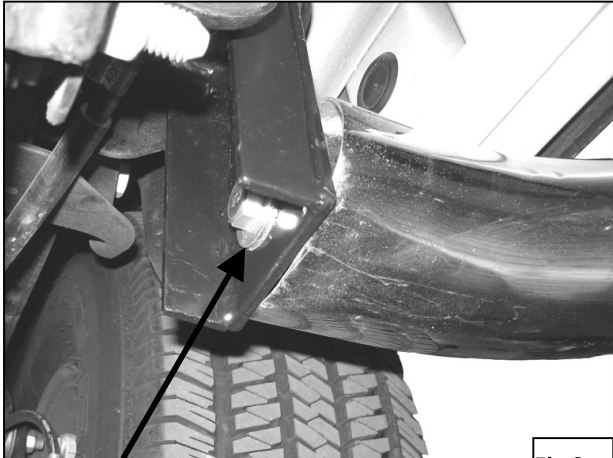

Fig 3
4. Attach driver Sidebar to Mounting Brackets using the included (2) ½" x 2" Hex Head Bolts, (2) ½" Lock Washers, and (2) ½" Flat Washers (**Figure 3**). Do not tighten at this time.